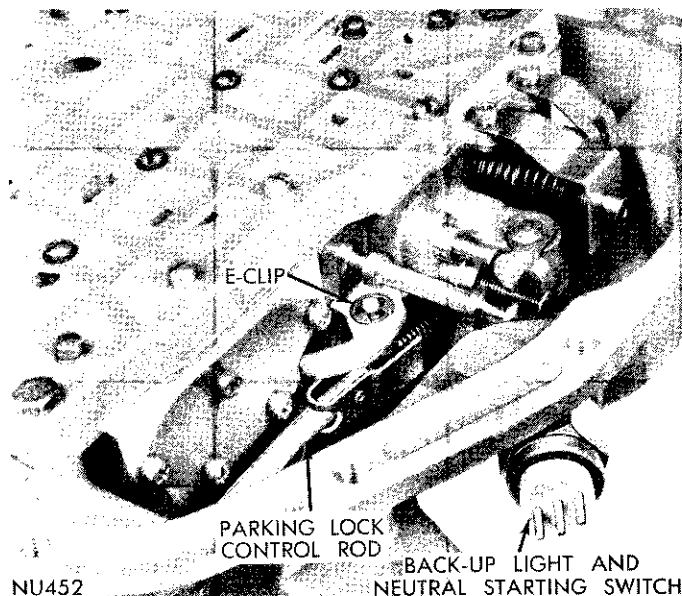

Fig. 28—Parking Lock Control Rod Retainer E-Clip
- (4) Remove E-clip (Fig. 28), securing parking lock rod to the valve body manual lever.
- (5) Remove Back-Up Light and Neutral Start Switch.
- (6) Place a drain pan under transmission, then remove the ten hex-head valve body to transmission case bolts. Hold valve body in position while removing the bolts.
(7) While lowering valve body out of transmission case, disconnect parking lock rod from the lever.